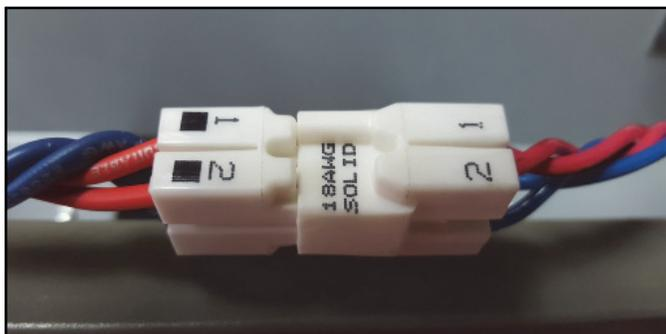

Figure 4
3. Completed connection should appear as shown in figure 4.